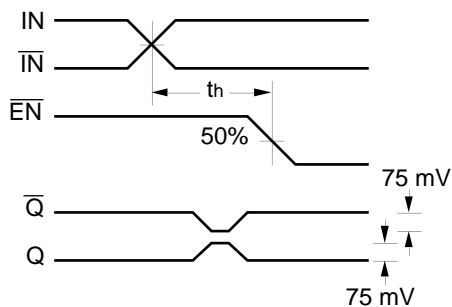

Figure 2. Hold Time
6. The hold time is the minimum time that \overline{EN} must remain asserted after a negative going IN or a positive going \overline{IN} to prevent an output response greater than ± 75 mV to that IN/ \overline{IN} transition (see Figure 2).